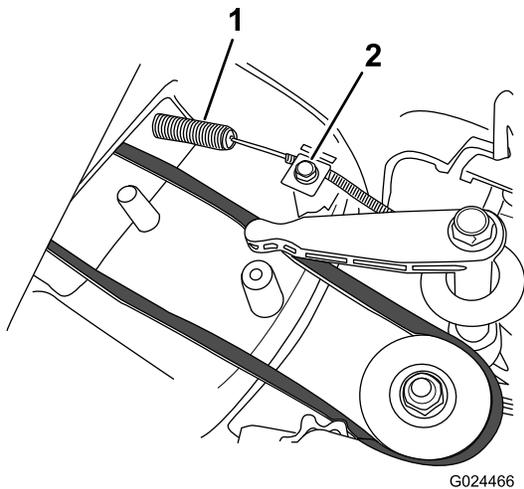

Figure 31
4. Install the new blade-brake cable, but do not tighten the cable clamp on the top of the mower housing (Figure 31).
5. Loosen the cable-clamp screw (Figure 31).